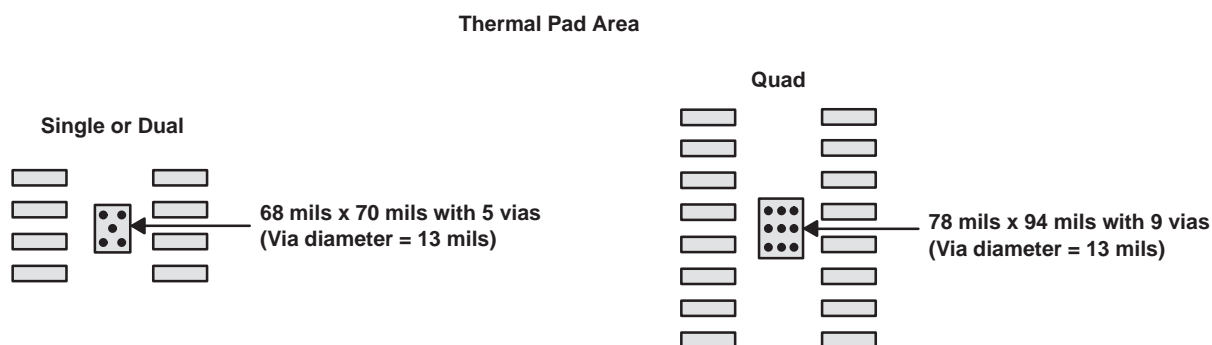

Figure 53. PowerPAD PCB Etch and Via Pattern
1. Prepare the PCB with a top side etch pattern as shown in Figure 53. There should be etch for the leads as well as etch for the thermal pad.